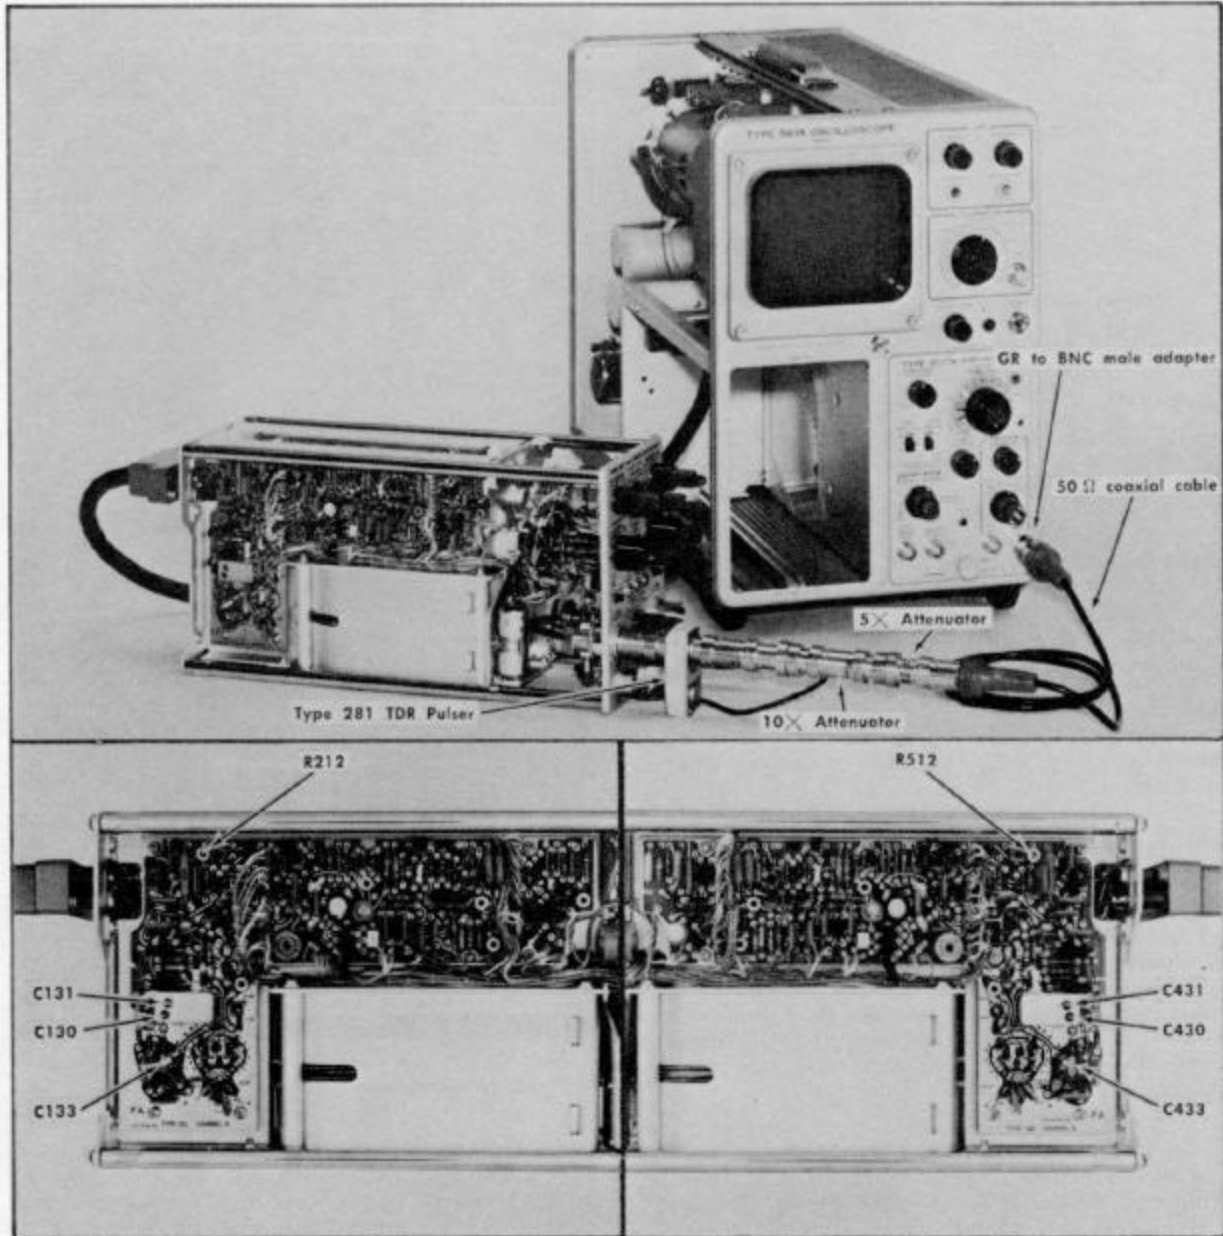

Fig. 8-12. Test setup and Blow-By adjustment locations, Step 8.
Install the Type 281 TDR Pulser on the A INPUT connector and connect its power cord to one of the PROBE connectors. Connect the Type 281 other connector to the Timing Unit external trigger input connector with a 10X and a 5X 50 Ω attenuator in series, a 50 Ω coaxial cable and a GR to BNC adapter. See Fig. 8-12.
a. Make the connections and preliminary adjustments listed following Fig. 8-12, and obtain a waveform display similar to Fig. 8-13A.
control, R212 (or R512 in Channel B) shown in Fig. 8-12, until the first dot is level with the rest of the display. Return the Timing Unit Dots Per Division control to 100.